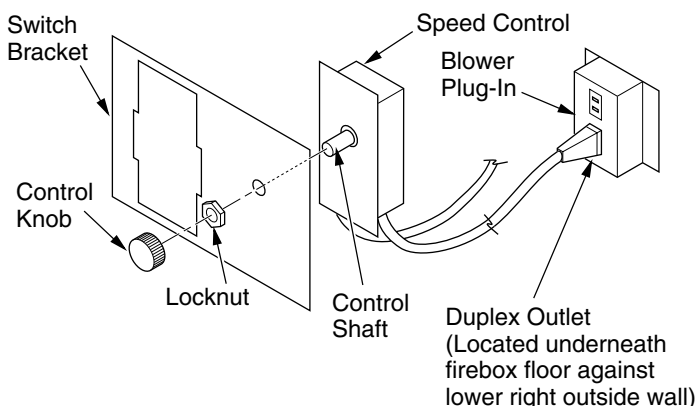

Figure 26 - Attaching Speed Control to Firebox
5. Mount speed control box to switch bracket by placing the plastic control shaft forward through the round opening in the switch bracket (see Figure 26, page 17).
5. Mount the speed control box against the mounting plate provided in the lower firebox cavity by placing the plastic control shaft forward through the round hole (see Figure 26).
6. While supporting speed control, secure control shaft with lock nut by pushing and turning lock nut with pliers clockwise until it is tight against mounting plate. Place control knob provided on shaft (see Figure 26).